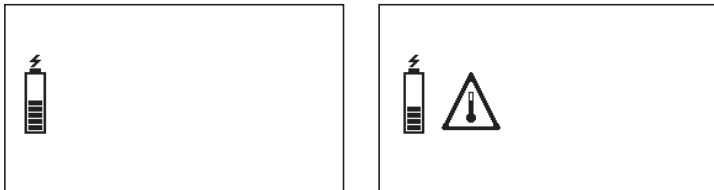

Fig. 11: Display when charging
- Connect the receiver directly to the power supply (230°V or vehicle electrical system voltage) via the **M4 AC/DC adapter** or the **M4 vehicle cable**. The display shows that charging is in progress (fig. 11).